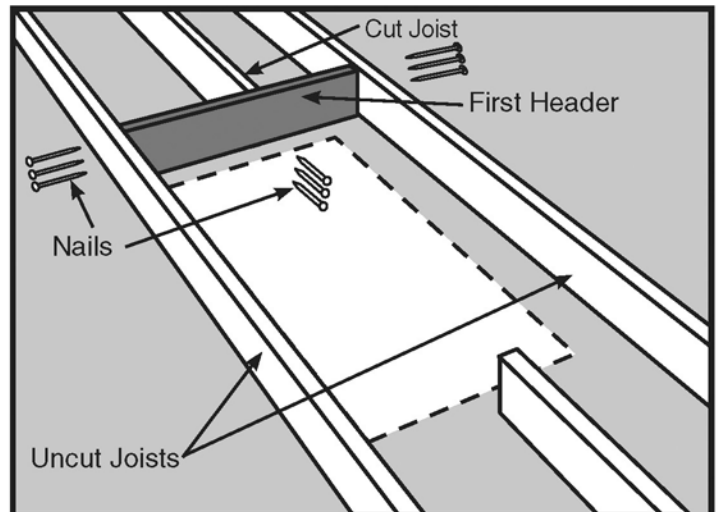

Figure 15
- STEP 3. Place one of these headers against the end of the cut joist(s) (See Figure 15). It must fit snugly between the uncut joists. Hammer it into position if necessary; if it is more than 1/16" too long, trim it. If it is more than 1/16" too short, cut another piece.
- STEP 4. Square the header to the uncut joist and nail the header to the end of the cut joist(s) with 3 nails (See Figure 15).
- STEP 5. Check header for squareness then drive 3 nails through each joist into each end of the header (See Figure 15).